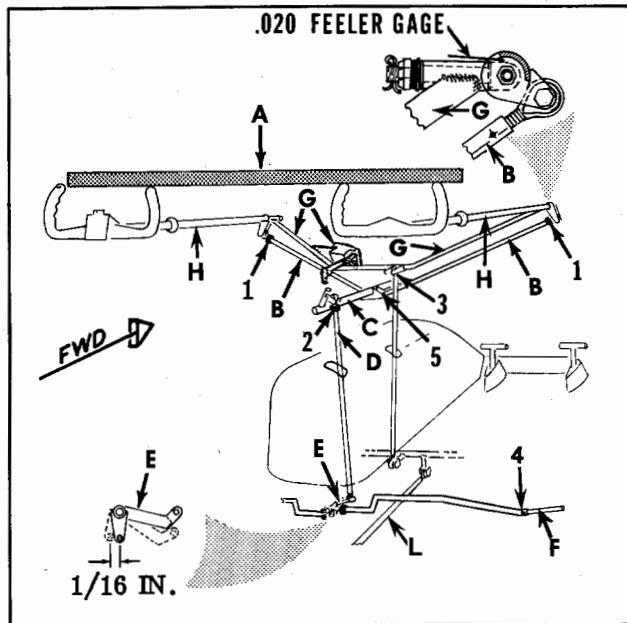
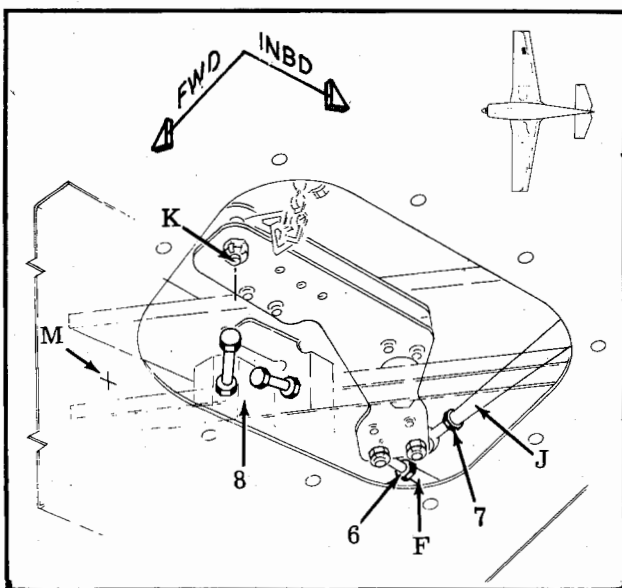
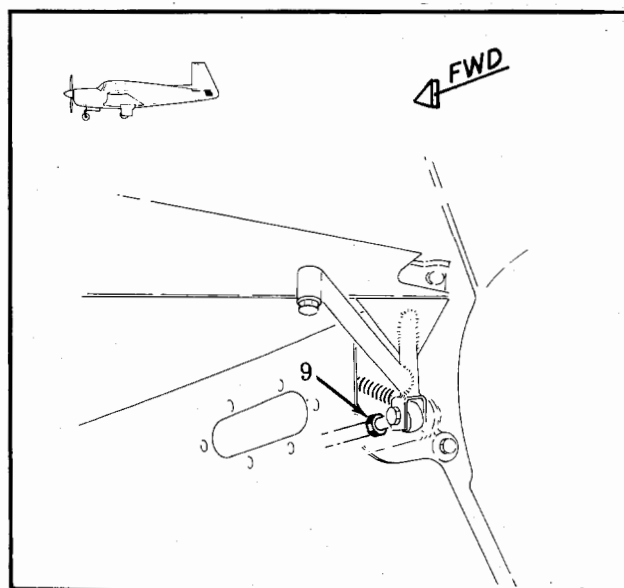

Figure 6-1. Aileron & Elevator Control Wheel Rigging
Figure 6-2. Aileron Stop Adjustments
Figure 6-3. Elevator Horn Adjustment
a. Use a straight edge (A), Figure 6-1, to align control wheels in accordance with step b.
b. For models M20C, E, F & G adjust control tube (B) linking control column bell cranks to rotating shaft (C) at rod ends (1) until both control wheels are level.
c. Adjust control tube (D) at rod end (2) so that aileron center bell crank (E) is 1/16 inch left of center facing forward. (Fig. 6-1)
d. Adjust aileron control tubes (F) by removing bolt, nut & washer (4) Figure 6-1 and loosening locknut (6) Figure 6-2. The aileron control tube (F) can then be rotated clockwise or counterclockwise so that the center of the outboard bolt (K) Figure 6-2 is 4.3 inches from spar web (M). Replace bolt, nut and washer (4) Fig. 6-1 and recheck 4.3 inch dimension.
e. Adjust aileron push-pull tube (J) at rod end (7) so that aileron (in neutral position) is 0° to -2° down (with no additional tolerance) as
g. M20J only - Rotate the left control wheel clockwise until the ailerons contact the aileron stops (8) Fig. 6-2. Adjust control tube (B) at rod end (5) by loosening the lock nut and turning tube clockwise or counterclockwise to attain .020 maximum clearance as shown by Figure 6-1. Secure locknut and recheck .020 dimension. Repeat the operation on right control wheel by turning wheel counterclockwise until ailerons contact the stops, then proceed as described for the left control wheel. Rigging is now complete.
a. Adjust rod end bearing (3), Figure 6-1,
NOTE: Adjust rod end bearings of control tube (L), Figure 6-1, at rear tail cone bulkhead, at elevator horn rod end (9), Figure 6-3, or as last resort at main spar adjustable rod end bearing to obtain additional elevator travel.